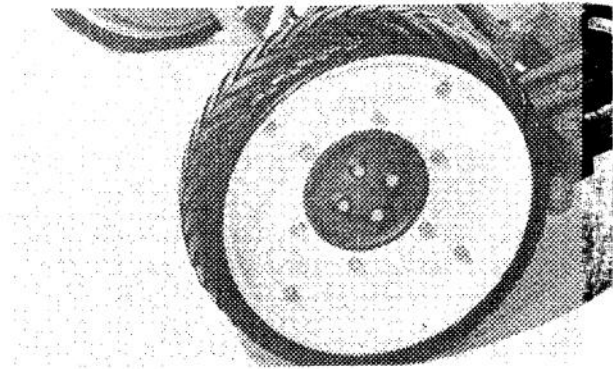

Figure 2
3. Install drive wheels with capscrews and lock-washers (Fig. 2). Do not try to install wheels over the shipping caps.